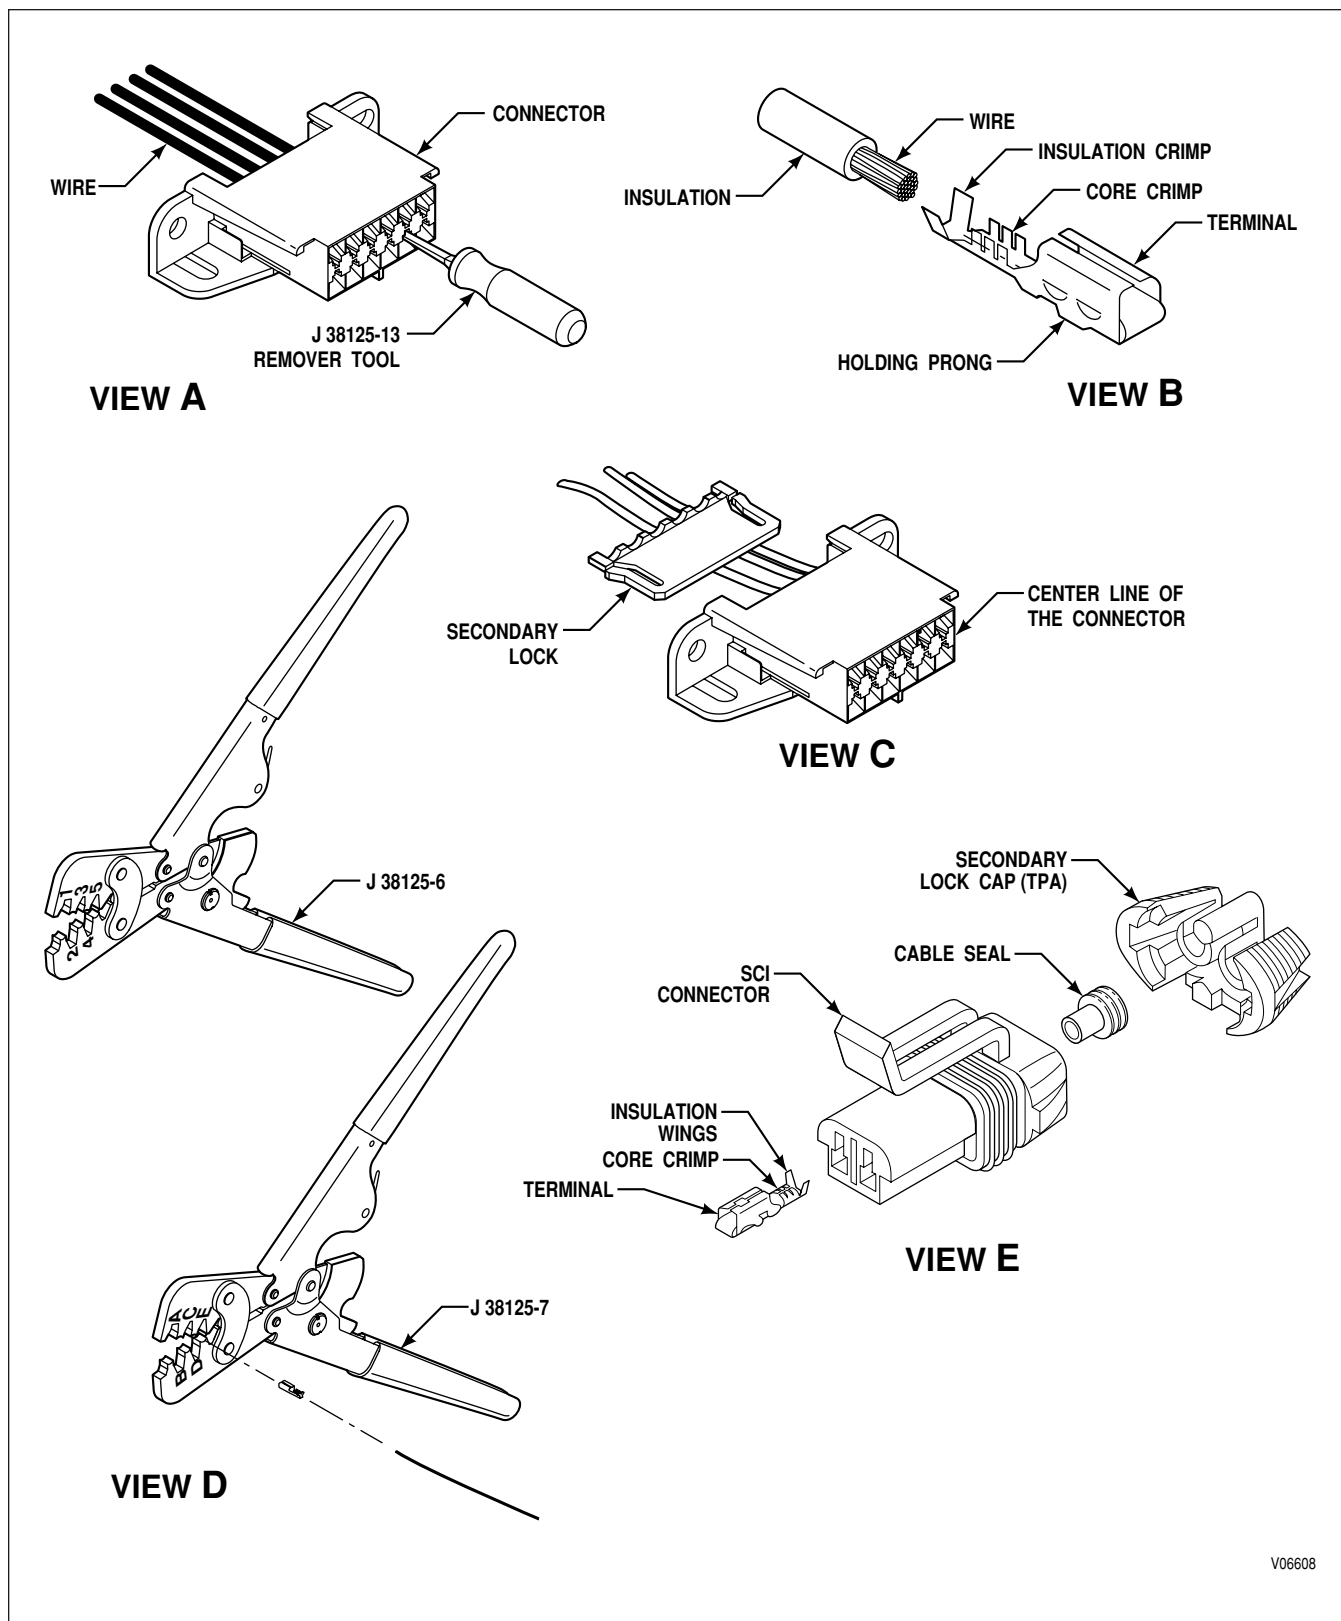

Figure C-4. Delphi-Packard Metri-Pack 280 Series Connectors—Push-to-Seat (Diagnostic Tool Connector and SCI)
1. Remove secondary lock from back of connector (Figure C-4, View C or E). (Use a small screwdriver or pick in the slots on each side of the connector.)
2. Insert remover tool J 38125-13 into open (front) end of connector at terminal to be serviced (Figure C-4, View A).
2. Insert terminal into crimping tool (Figure C-4, View D), anvil “2.”
4. Align the terminal with its position in the connector and insert wire so that the stripped portion of the wire is in the core crimping area and the insulated portion of the wire is in the insulation crimping area (Figure C-4, View B).
5. Crimp the stripped section of the wire (Figure C-4, View D).
7. Use a pair of needle nose pliers, if necessary, to start the bend on the insulation crimp wings (Figure C-4, View D).
8. Crimp the insulated section of wire using anvil “A” of the crimpers shown (Figure C-4, View D).
11. Insert terminal into connector with the locktab toward the center line of the connector (Figure C-4, View C or E).